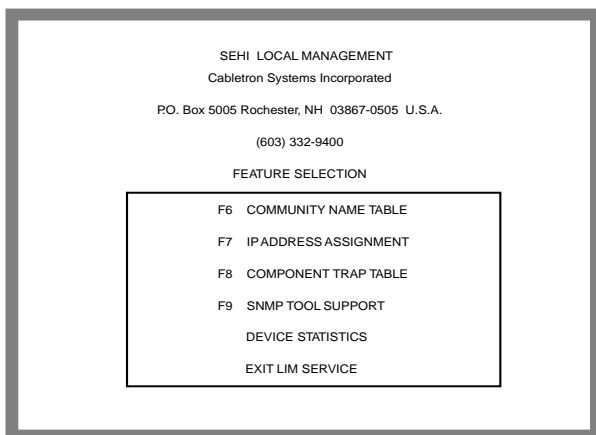

Figure 7-3 Feature Selection Screen
- If the password is valid, the associated access privilege appears briefly, then the SEHI Local Management Feature Selection screen shown in Figure 7-3 appears.